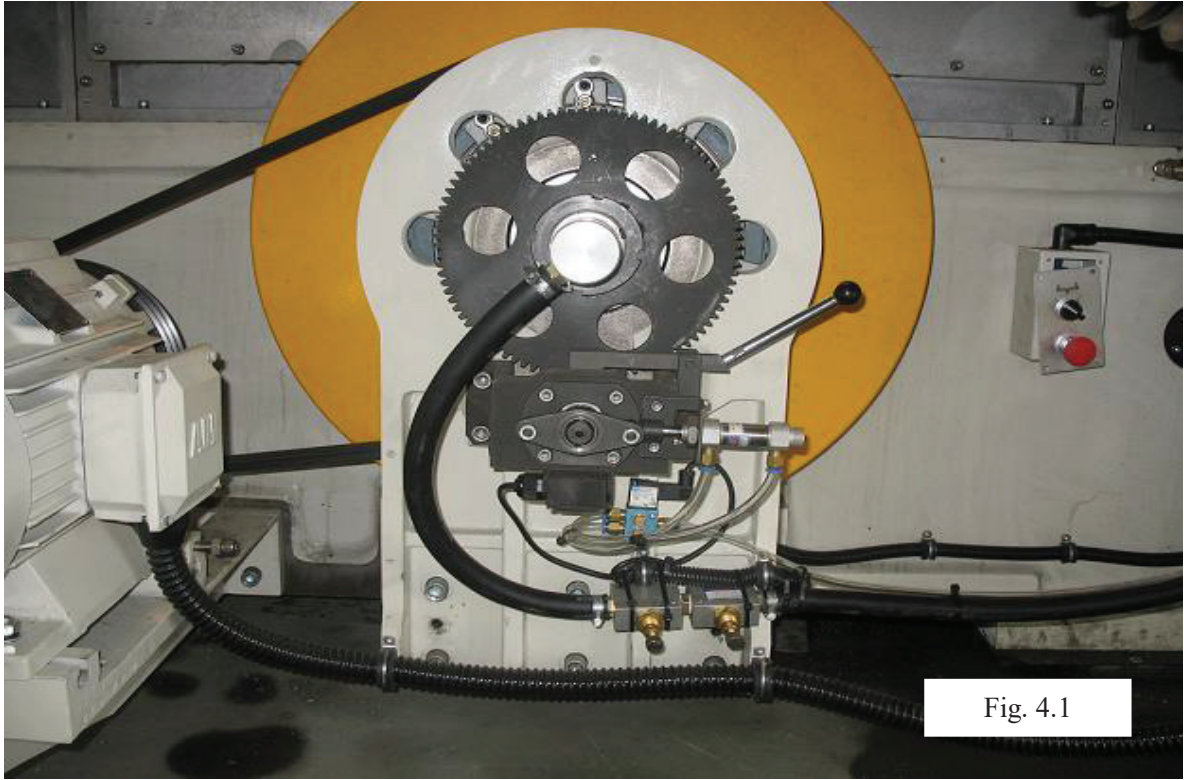

Fig. 4.1
- Reduction gears for manual drive.(fig. 4.1)